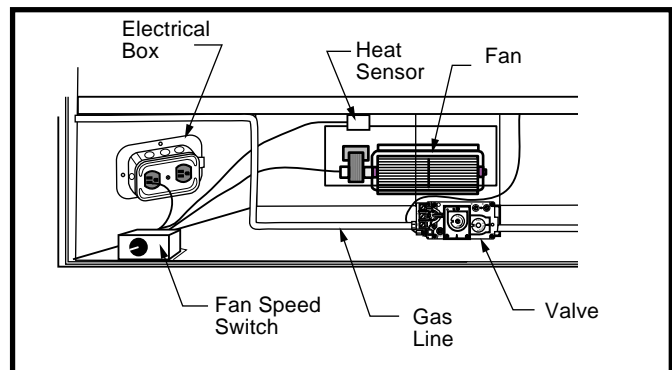

Fig. 73 FK24 fan placement.
1. Slide fan assembly from the left side into the fireplace opening, line up mounting holes with screw studs on back of fireplace and fasten with #10 - 24 hex nuts. (Fig. 73)